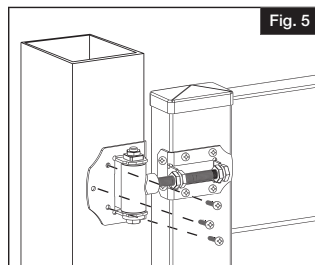

Fig. 5
Set the gate level to the post and mark pilot holes on the gate post. The slotted screw holes on the inside of the post attachment allow for vertical adjustment. It is recommended to pre-drill and install the inside screws before installing the front screws. (6) 1½" #2 square/Phillips combo screws per hinge (3 on front of hinge and 3 on side) (Fig. 5 & 6).